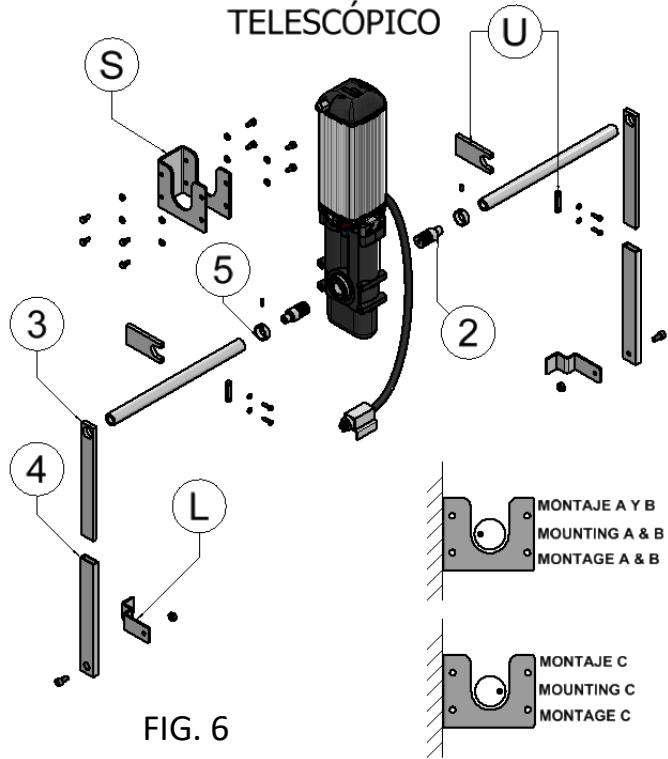

FIG. 6
Fitting Figure 6
1. Fix the motor bracket "S" in figure 6 on the door leaf, in the position shown in figures 2, 3, 4 or 5, depending on the type of installation.
3. Insert part "2" in figure 6 10mm into a transmission rod of external diameter 28 and weld. This transmission rod is not included with the fitting (The drive rod is recommended to be a 4 or 5 mm thickness pressure tube).
4. Position the "U" piece in figure 6 as shown in figure 2, 3 or 4 so that the drive rods are completely aligned with the centre of rotation of the unit.
5. Fix the brackets "L" of figure 6 as shown in figures 2, 3 or 4 depending on the type of assembly.
6. Mount parts "4" of figure 6 to the bracket "L" of figure 6 and insert part "3" of figure 6 into this tube.
7. Insert the transmission rods welded to part "2" through the hole in part "3" of figure 6. Mount the transmission rods in the unit and fix them by the parts "U".
8. The point marked on the right pivot axis of the 2RU* unit must be as shown in figure 6 according to the type of assembly. Before welding parts "3" to the drive rods, turn the shaft of the unit about 5° away from the stop position. Fit the travel stops (markings "5" figure 6). With the door completely closed, proceed with welding.